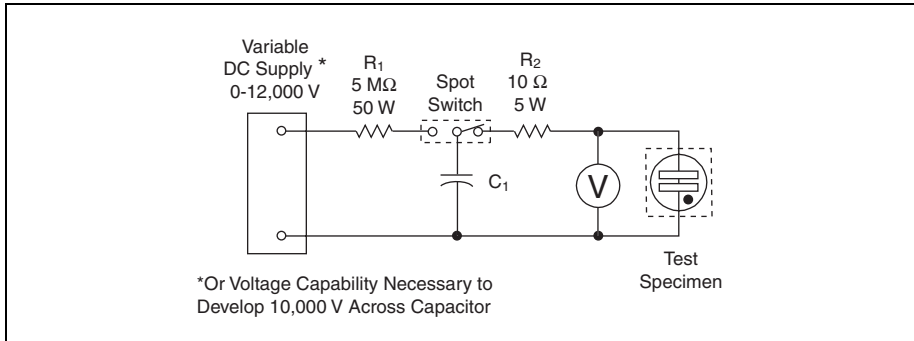

Figure 4.9 UL 497 Discharge Test
- **Discharge Test** — Protectors must comply with the strike voltage requirements after being subjected to five successive discharges from a 2 μ F capacitor charged to 1000 V dc. (Figure 4.9).
- **Repeated Discharge Test** — The arrestor must continue to break down at or below its maximum rated breakdown voltage after being subjected to 500 discharges from a 0.001 μ F capacitor charged to a potential of 10,000 V dc. The interval between pulses is five seconds. Arrestors are to be tested in each polarity, and it is acceptable for the protector to short circuit following the discharge testing. (Figure 4.9)